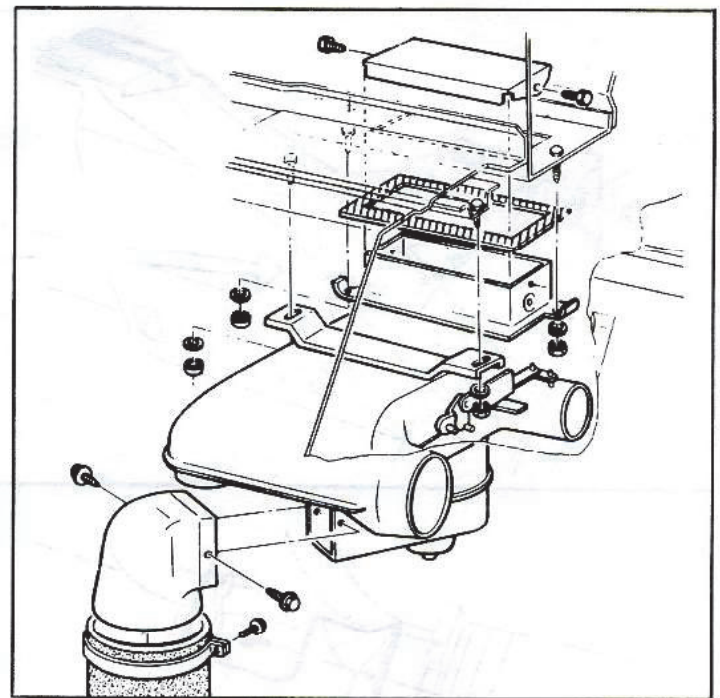

Fig. 3—Heater Blower and Air Inlet Assembly
5. Remove the four nuts and washers attaching the air inlet assembly to the underbody studs, lower the assembly and carefully remove. (See Figure 3).